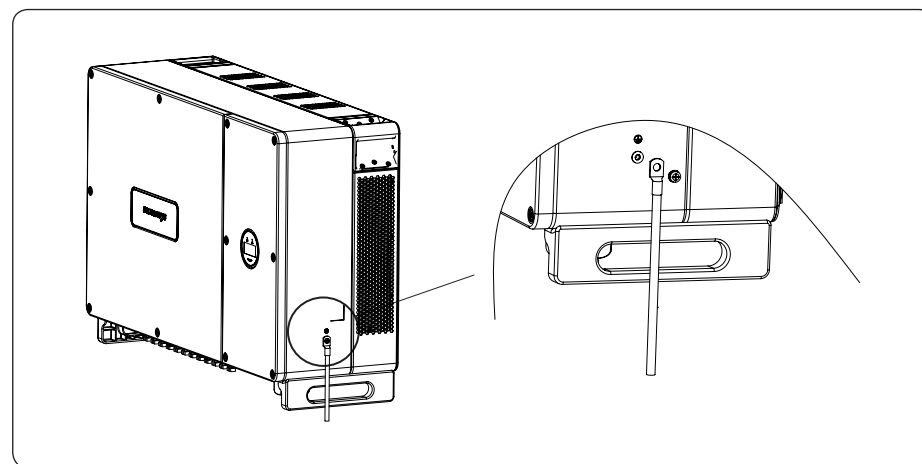

Figure 4-17 Grounding terminal connection
- 2) Fix the grounding terminal to the PE wire with a hydraulic clamp and lock the grounding terminal to the grounding hole in the inverter. As shown in Figure 4-17: